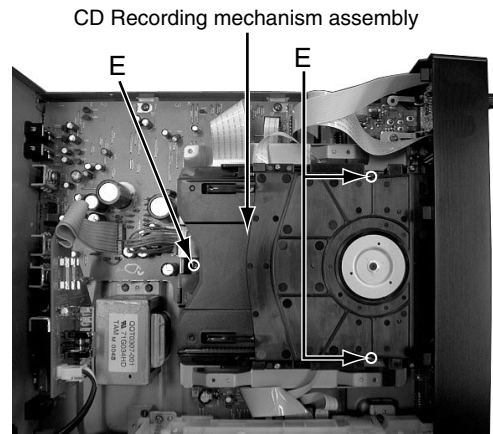

Fig.5
■ Removing the CD recording mechanism assembly (see Fig.5~7)